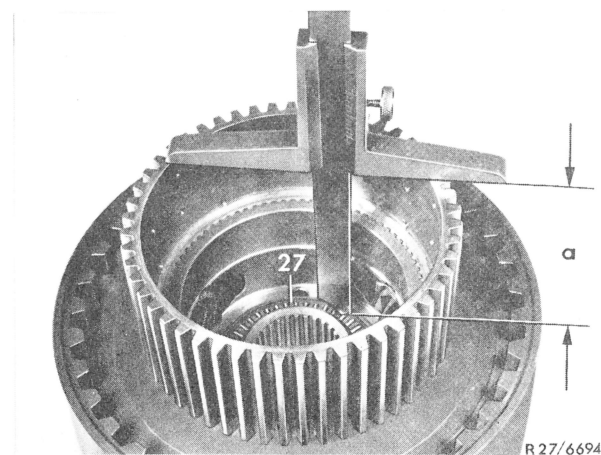

Fig. 23
37 Measure with depth gauge distance from face of inner plate carrier to a roller of the axial bearing (27) and determine dimension "a" (Fig. 23).
Measuring Points for Figs. 23, 24, 26 and 27